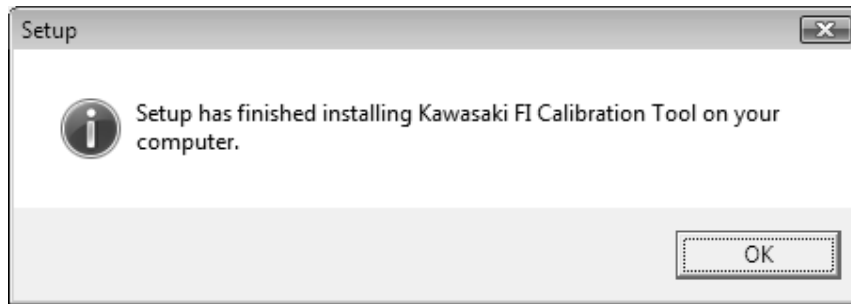

Fig. 18 Installing Finish
(10) After the **Kawasaki FI Calibration Tool program** is installed, the screen shown in Fig.18 appears.